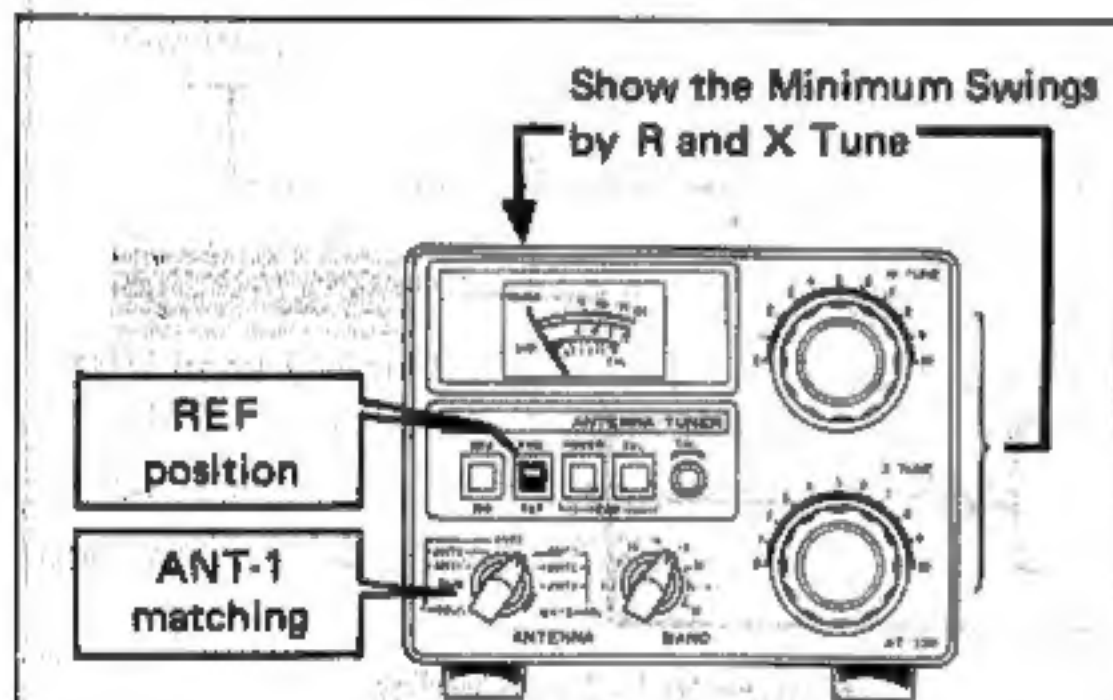

Figure 3-4 Adjusting the Coupler
- Initially, set the BAND switch to the operating band as shown in Figure 3-4.